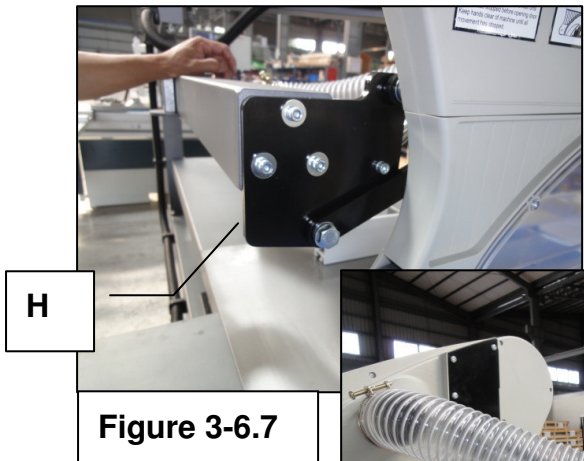
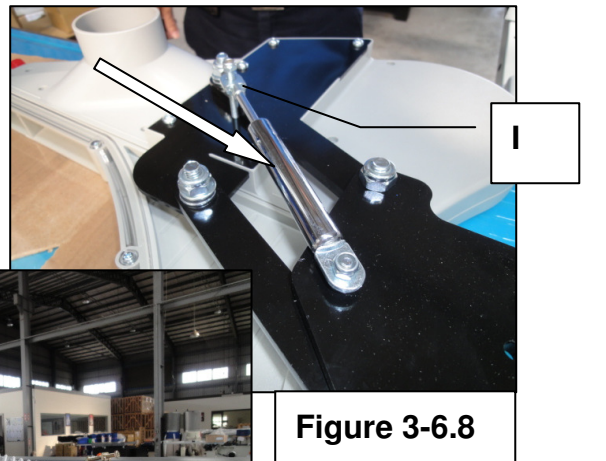

Figure 3-6.7
Figure 3-6.8
6. Screw **H**(Fig. 3-6.7) for fixing saw blade guard and fix the gas spring **I** (Fig. 3-6.8)